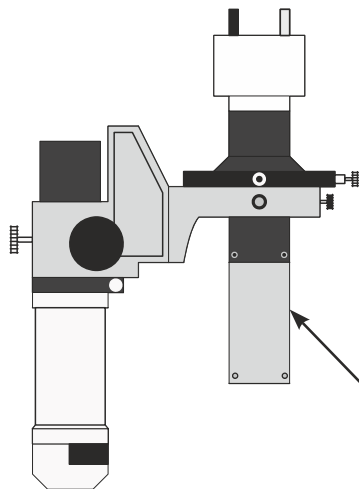

Fig. 1-4. Mounting the adapter.
1. Insert the adapter of the videomicroscope (see Fig. 1-3) into the lower end of the tube and secure it with three screws (Fig. 1-4).